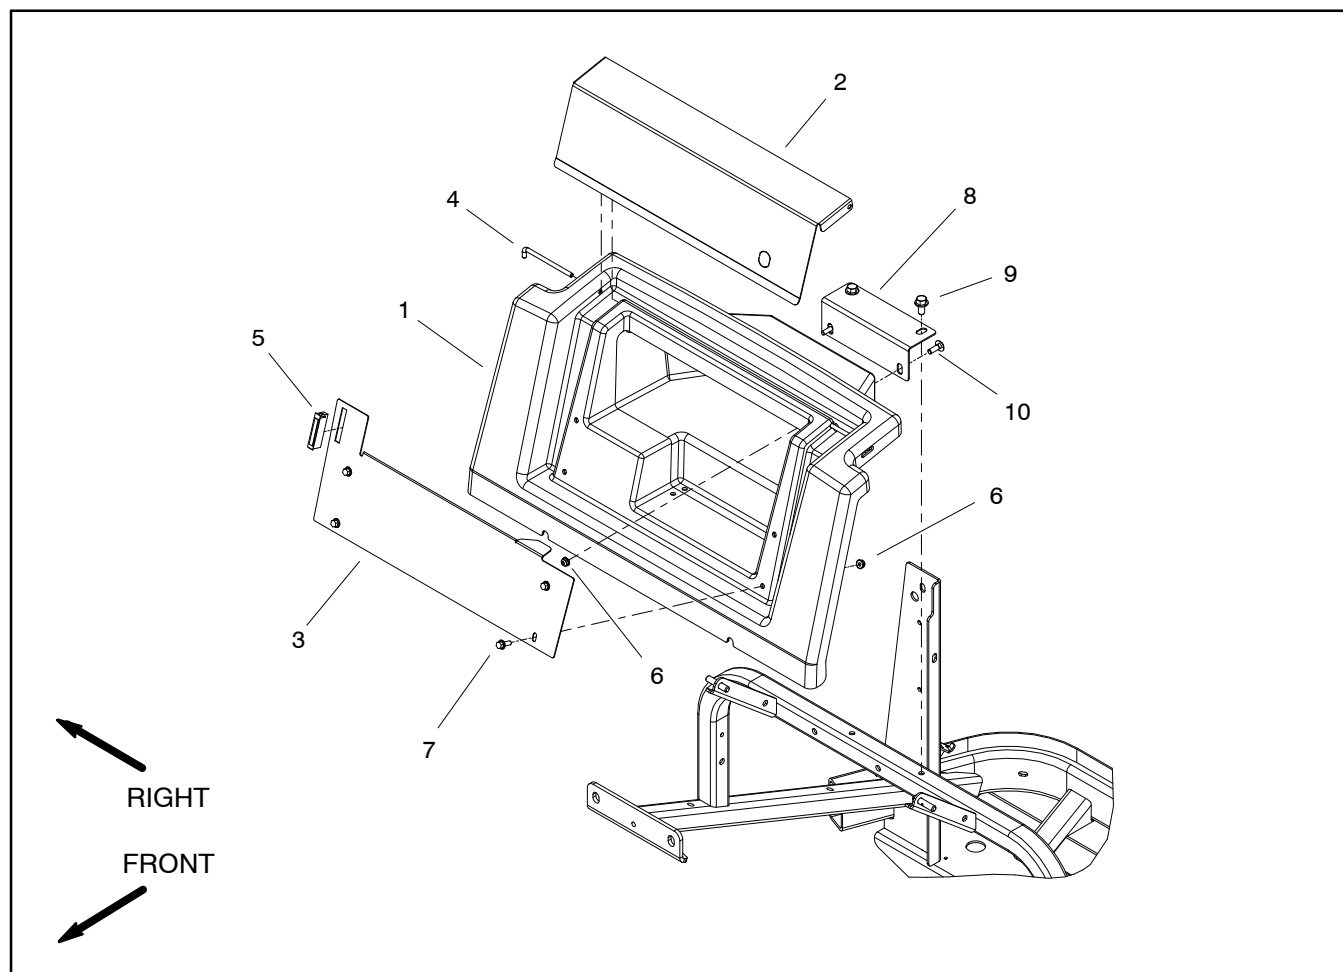

Figure 51
### Removal (Fig. 51)
3. Remove two (2) flange head screws (item 9) that secure storage compartment to frame.
4. Lift storage compartment assembly to separate it from the two (2) shoulder bolts that retain lower edge of housing to frame.
6. If necessary, remove components from storage compartment using Figure 51 as a guide.
### Installation (Fig. 51)
1. Secure all removed components to storage compartment using Figure 51 as a guide.
2. Align notches in storage compartment with two (2) shoulder bolts in machine frame and slide compartment onto bolts.
3. Install two (2) flange head screws (item 9) to secure storage compartment to frame.